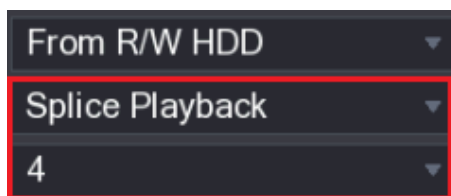

Figure 5-103
Step 2 In the **Search Type** list, select **Splice Playback**; In the Split Mode list, select **4, 9**, or **16**. See Figure 5-103.